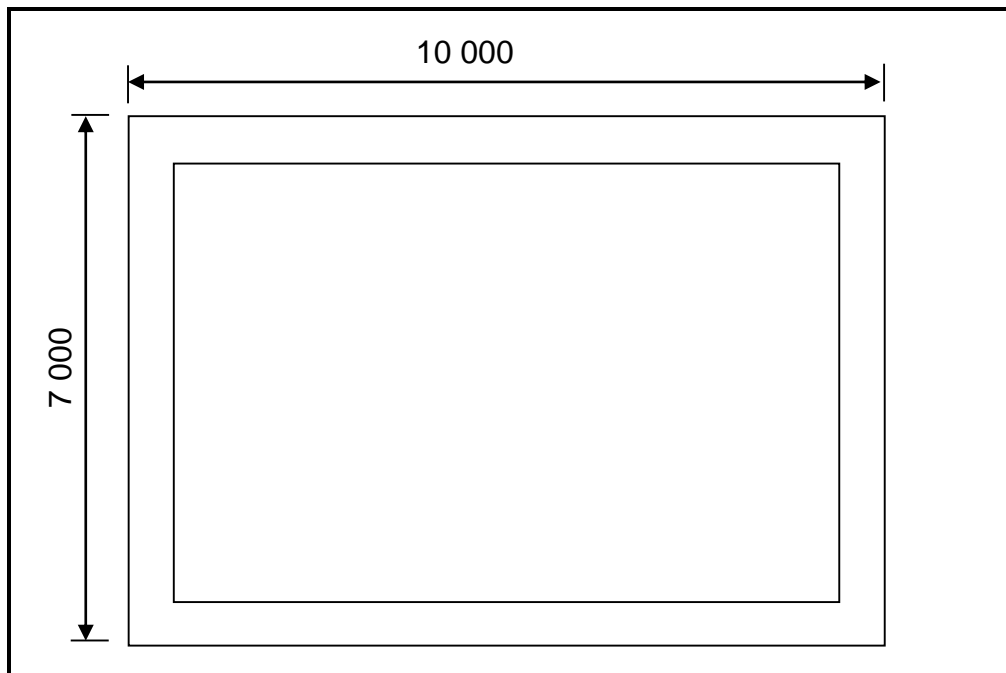

FIGURE 3.1
3.1 FIGURE 3.1 shows the foundation strips for a building. The foundations are 600 mm wide and 200 mm thick.